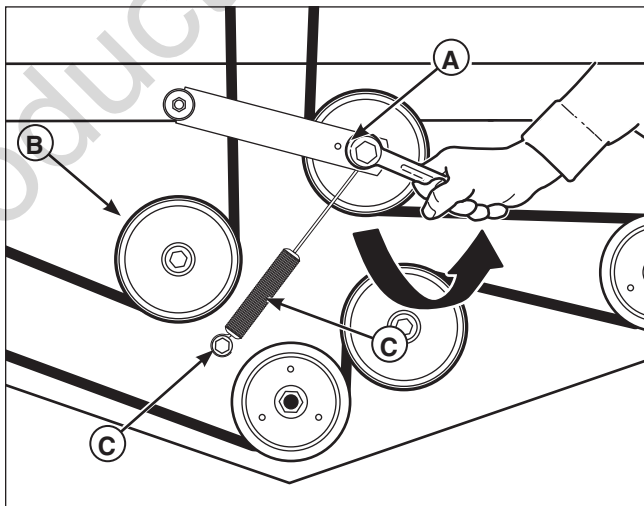

Figure 27. Mower PTO Belt
- Using a 1/2" breaker bar, place the square end in the square hole located on the end of the idler arm (A, Figure 27). Carefully rotate the breaker bar COUNTER-CLOCKWISE, which will relieve the tension on the belt exerted from the idler arm.